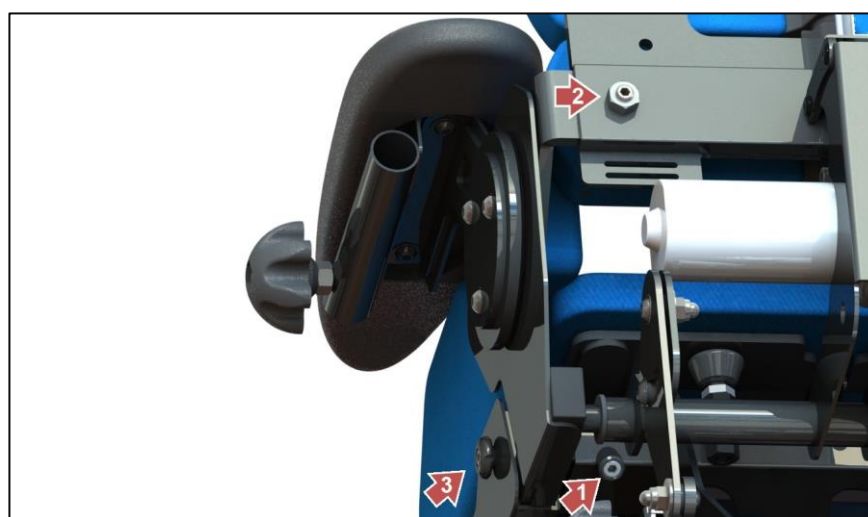

Fig. 2 Adjusting the width
The width of the seat can be adjusted using the knob (3) marked with a red arrow (fig. 2). The knobs are located on the right and left sides of the device. Their effect is independent of each other. This enables symmetrical and asymmetrical positioning of the user's body.
- loosen the securing bolts (1 and 2) on the back and bottom of the device using the allen key 4mm (fig. 2).
- turn the knob (3) marked with a red arrow using the allen key 4mm (fig. 2) to change the width of the left or right side of the device.
- tighten the securing bolts (1 and 2) on the back and bottom of the device (fig. 2).